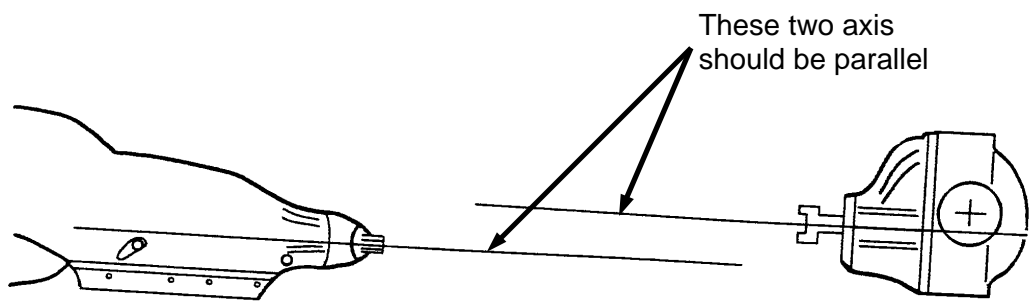

Figure 3
5. Position the axle housing into the frame. Rotate the housing to set the pinion angle to match the angle of the engine, see Figure 3. The engine angle must be set at this point. Adjust the bars to equal length. Assemble the bars, with the adjusters to the front, and axle brackets onto the housing using the 5/8-18 bolts and lock nuts supplied. The center-to-center dimension of the brackets is 38-1/2". Make sure that both brackets are the same distance from the ends of the axle housing. The axle brackets should be tack welded to the housing, and the assembly double checked for square and correct pinion angle. Final welding should be performed by a qualified welder.